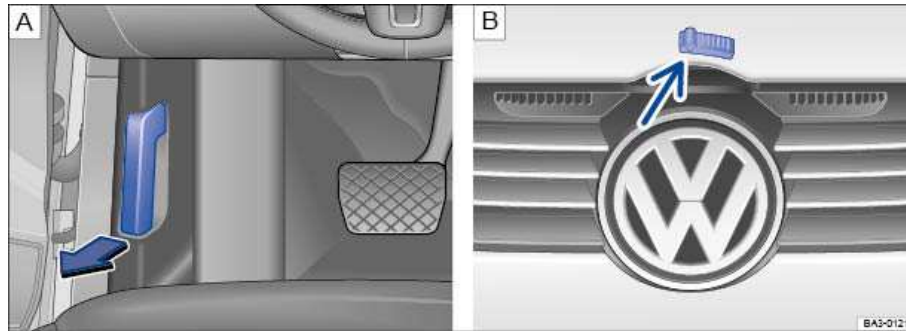

Fig. 181 A: In the footwell on the driver side: Inside engine hood release lever. B: Above the radiator grille: Outside engine hood release (under the hood).
- Open the driver door and pull the inside hood release lever in the direction of the arrow ⇒ fig. 181 (A).
- Push the outside hood release lever (B) (arrow) and lift the hood all the way up. A gas-filled strut will hold the hood up.